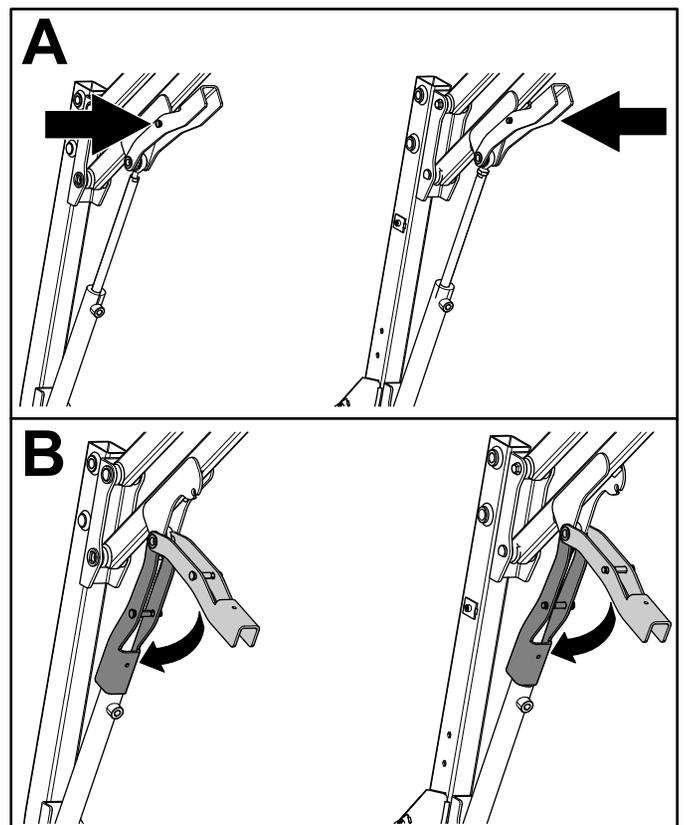

Figure 37
- A. Push the pin on magnetic safety lock inward (Figure 37).
- B. While still holding the pin in, lower magnetic safety lock onto the hydraulic cylinder (Figure 37).